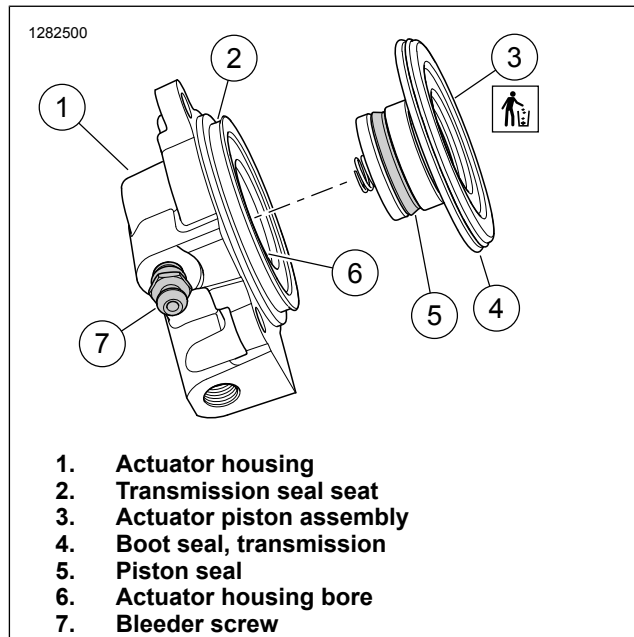
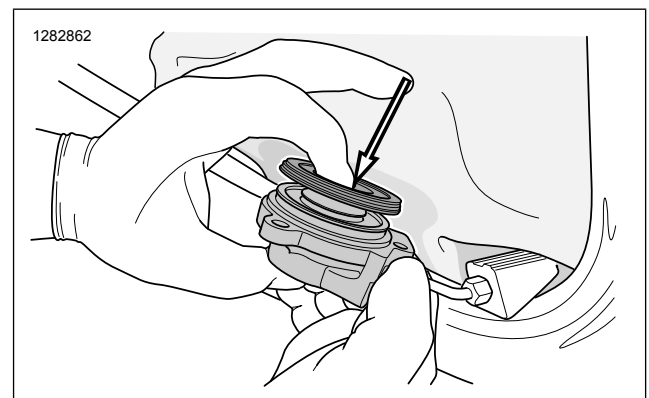

Figure 3. Secondary Actuator Assembly
Figure 5. Installing Actuator Piston Assembly
**Do not** use any tools to remove the transmission seal boot (4) from actuator housing (1).
1. Refer to Figure 3. Remove the actuator piston assembly (3).
- b. Refer to Figure 3. Remove the transmission seal boot from the transmission seal seat (2).
- c. Remove piston assembly from actuator housing (1).
- Refer to Figure 3. Clean actuator.
**Do not touch pre-lubed piston seal (5) when removing from packaging.**
- Refer to Figure 3. Remove **new** actuator piston assembly (3) from packaging.
- Align **new** actuator piston assembly squarely to the actuator housing bore (6).
- Refer to Figure 5. Push down on center of piston until fully seated in bore.
- Refer to Figure 3. Install the transmission boot seal (4) around the transmission seal seat (2).
- b. Refer to Figure 3. If hold-in test continues to fail, remove actuator piston assembly (3) and inspect piston seal (5) and actuator housing bore (6). Refer to Section Clean and Inspect.